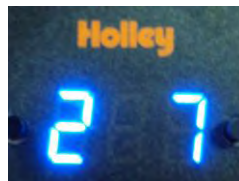

Figure 5
- SETTING 2** - This setting is used for the intensity of the LED lights on the gauge with NO headlights on (0 = dim and 9 = bright). This shows you that you are on the 2nd setting and you chose level 7 for brightness (**Figure 5**).